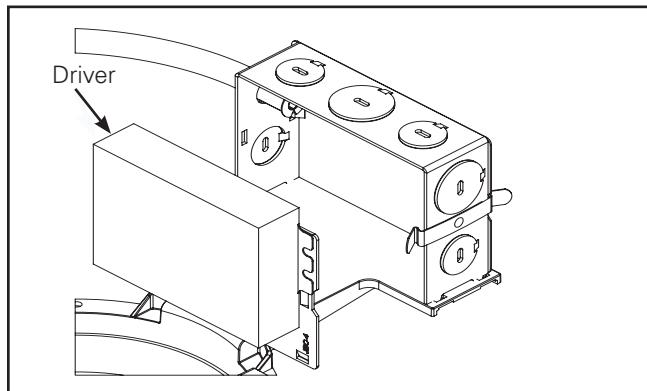

Figure 28
2. Remove the driver and junction box cover assembly. (Figure 28).